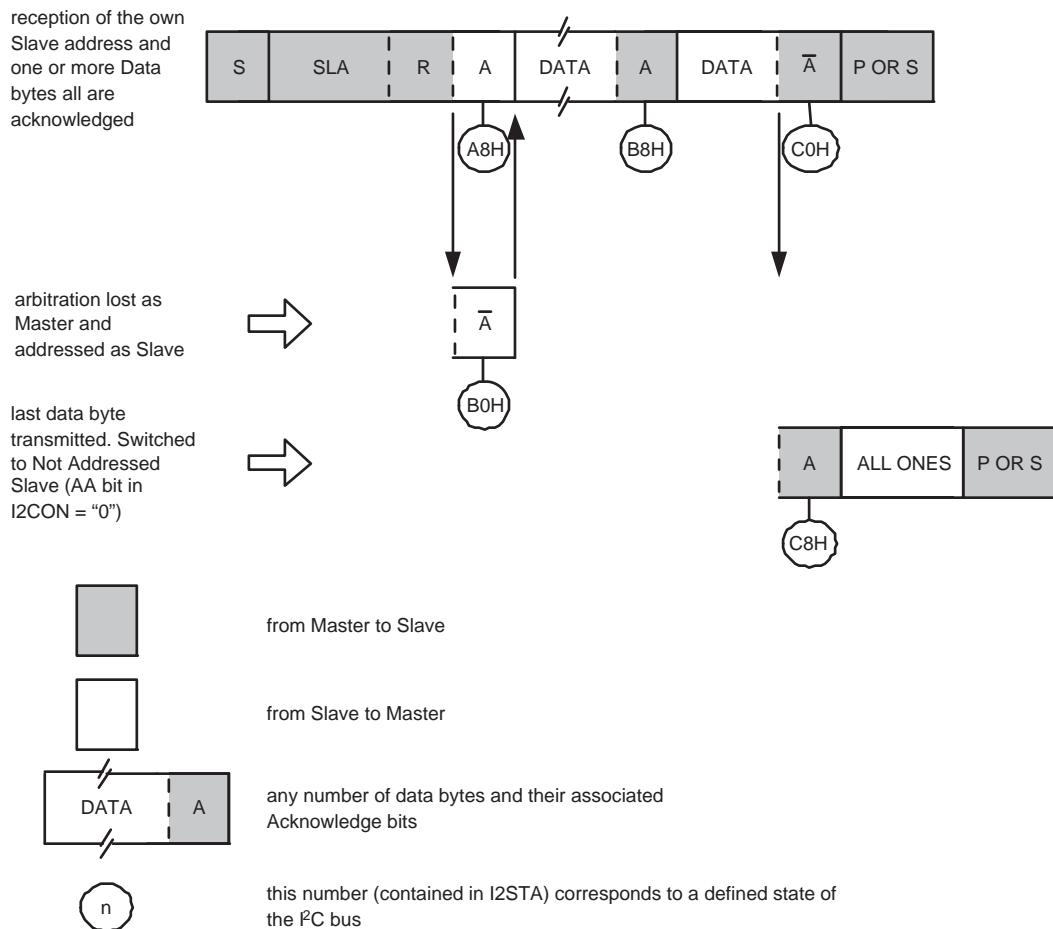

Fig 170. Format and states in the Slave Transmitter mode
In the slave transmitter mode, a number of data bytes are transmitted to a master receiver (see Figure 170). Data transfer is initialized as in the slave receiver mode. When ADR and CON have been initialized, the I2C block waits until it is addressed by its own slave address followed by the data direction bit which must be “1” (R) for the I2C block to operate in the slave transmitter mode. After its own slave address and the R bit have been received, the serial interrupt flag (SI) is set and a valid status code can be read from STAT. This status code is used to vector to a state service routine, and the appropriate action to be taken for each of these status codes is detailed in Table 1002. The slave transmitter mode may also be entered if arbitration is lost while the I2C block is in the master mode (see state 0xB0).